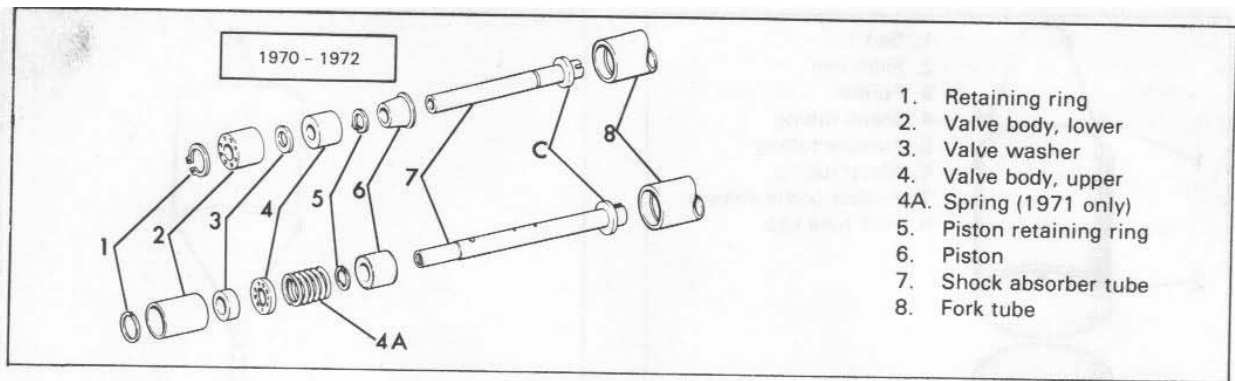
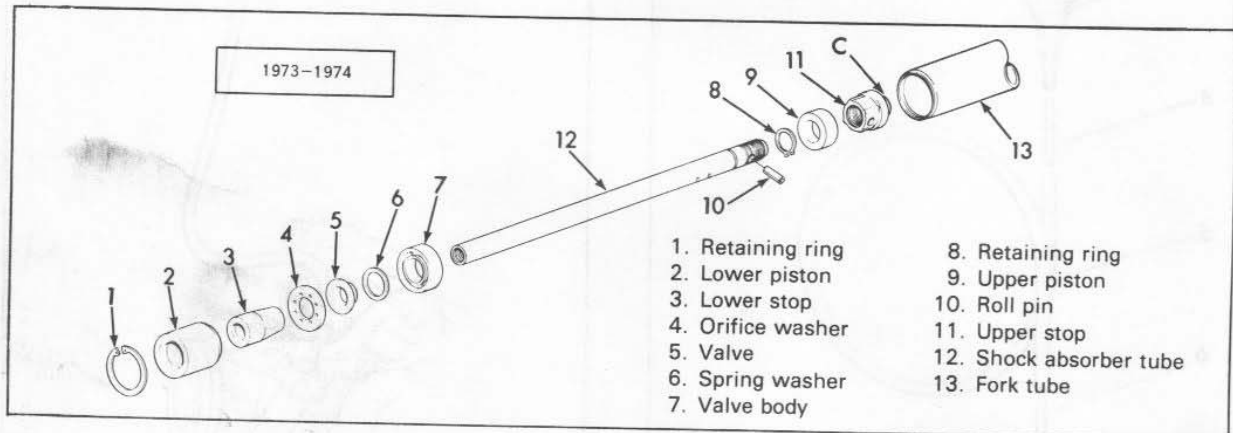

Figure 2-34. Front Fork Shock Absorber - Exploded View
Figure 2-35. Front Fork Shock Absorber - Exploded View
If snubbing action of the front fork remains unsatisfactory, bottoms on compression, stops suddenly on recoil and does not operate smoothly after eliminating malfunctions previously covered, disassemble fork as described in "DISASSEMBLING FRONT FORK SHOCK ABSORBER." Inspect shock absorber giving particular attention to the following parts (see Figure 2-34 or 2-35): Check fit of damper piston in fork tube and fit on shock absorber tube. Check seating washer on upper and lower valve body faces. Replace worn or damaged parts.
Remove front fender and headlamp housing. Remove fork tube cap (1). Loosen fork tube pinch bolt (4). (On 1970 models, stretch rubber fork boot (5) from upper retainer (15) lip.) Remove fork side (6) complete. On 1972 and earlier models, use Wrench, Part No. 94694-52, and disassemble retainer (7) from top of fork tube (8). Remove spring (9) and drain hydraulic fork oil from fork tube. Turn assembly upside down and remove bolt and washer (12). It may be necessary to insert Tool, Part No. 95991-69 or a long screwdriver into 3/32 wide x 1/2 long slot C (Figure 2-34) in upper end of shock absorber tube to keep it from turning while removing bolt (12). On 1973-1974 models, use Socket, Part No. 94556-73 with extension on upper end of shock absorber tube C (Figure 2-35) to keep it from turning. Free slider (10) from tube (8).
DISASSEMBLING FRONT FORK SHOCK ABSORBER 1970 (Figure 2-34)
1971-1972 (Figure 2-34)
1973-1974 (Figure 2-35)